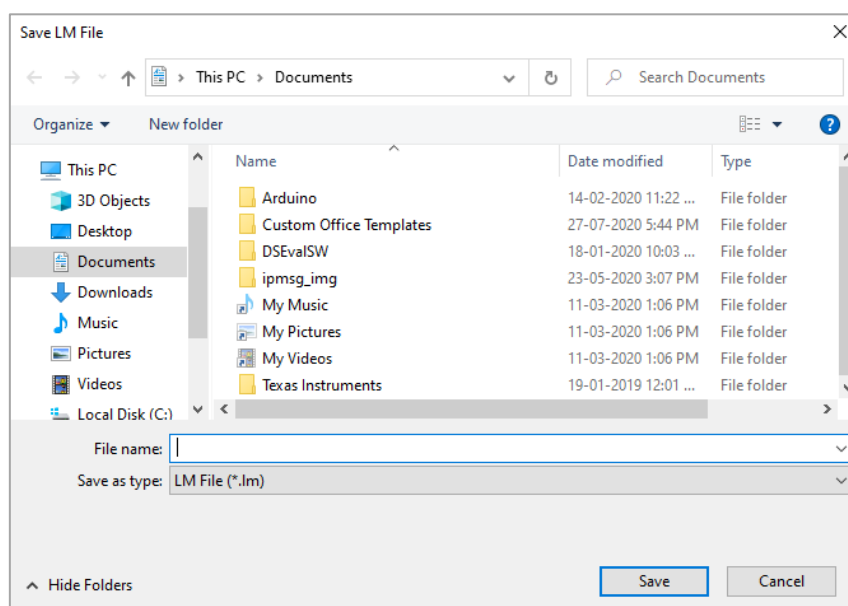

Figure 12 Selecting file location for saving data summary
- Select the download option, choose the appropriate file path and batch file name for saving the data file and press  button in the pop-up window as shown in figure 12.